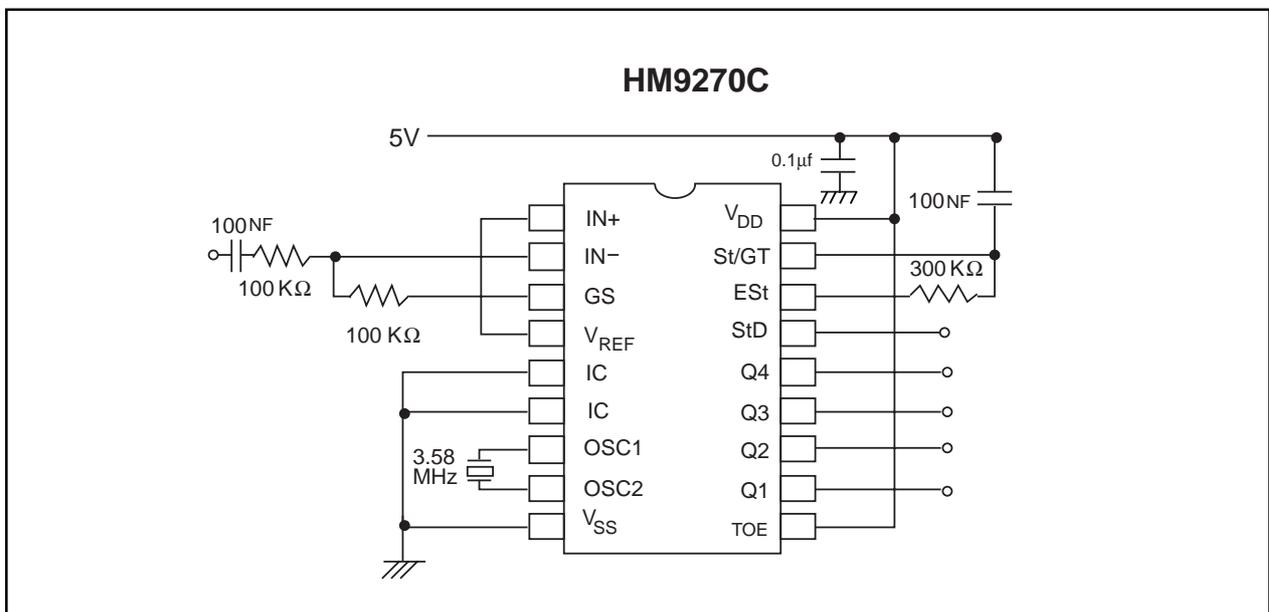
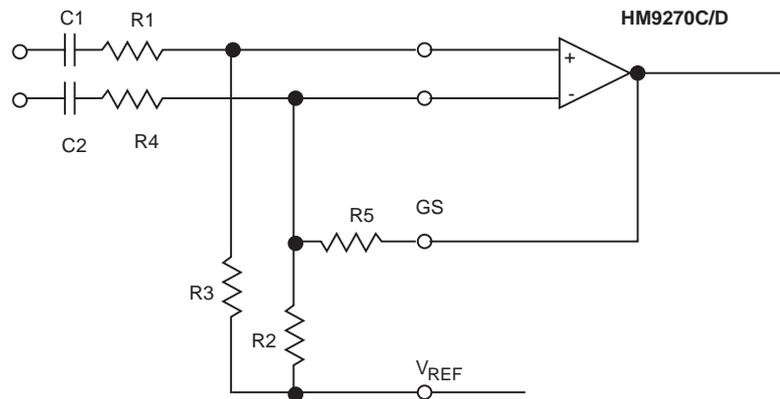

FIGURE 2. SINGLE ENDED INPUT CONFIGURATION
FIGURE 9. DIFFERENTIAL INPUT CONFIGURATION
All voltages referenced to  $V_{SS}$  unless otherwise noted.  $V_{DD}=5.0V$ ,  $V_{SS}=0V$ ,  $T_A=25^\circ C$ ,  $F_{CLK}=3.579545$  MNz, using test circuit of figure 2.
The input arrangement of the HM9270C/D provides a differential-input operational amplifier as well as a bias source ( $V_{REF}$ ) which is used to bias the inputs at mid-rail. Provision is made for connection of a feedback resistor to the op-amp output (GS) for adjustment of gain. In a single-ended configuration, the input pins are connected as shown in Fig. 2 with the op-amp connected for unity gain and  $V_{REF}$  biasing the input at  $1/2V_{DD}$ . Fig. 9 shows the differential configuration, which permits the adjustment of gain with the feedback resistor R5.